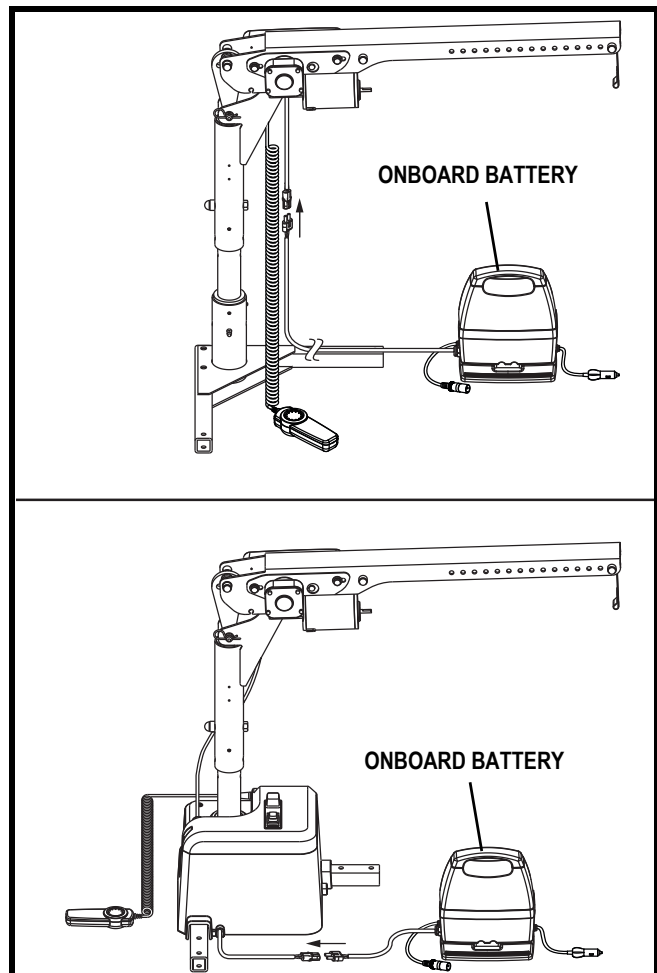

Figure 6. Onboard Battery Installation
1. Insert the onboard battery into the battery pack base, making sure that the connector on the bottom of the battery aligns and fully connects with the mating connector inside the battery pack base. **See figure 6.**
2. Connect the male connector on the battery cable to the female connector at the base of the Pride Boom 250. **See figure 6.**